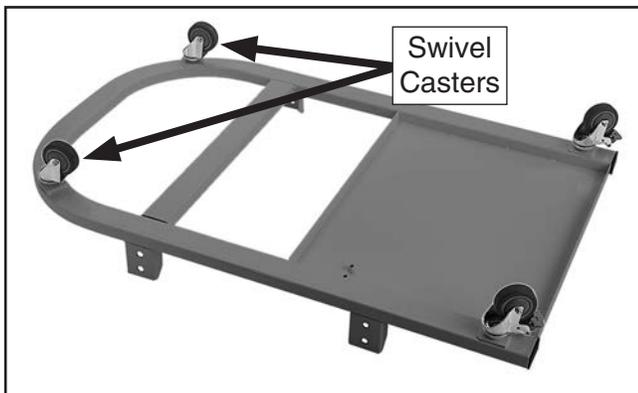

Figure 10. Swivel casters installed.
2. Thread (2) 3" swivel casters into base stand, then tighten hex head on caster threads (see **Figure 10**).